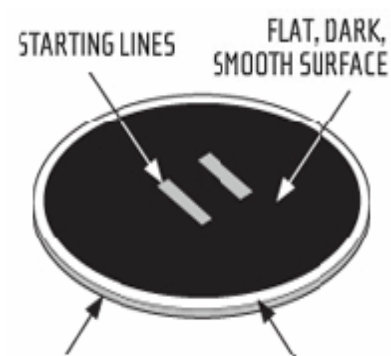

Figure 1 Example sumo filed with key components labelled
1.1.1 The arena will be a circular ring 1000 to 1200 mm in diameter with a 50 mm white border around the ring’s perimeter (Figure 1).